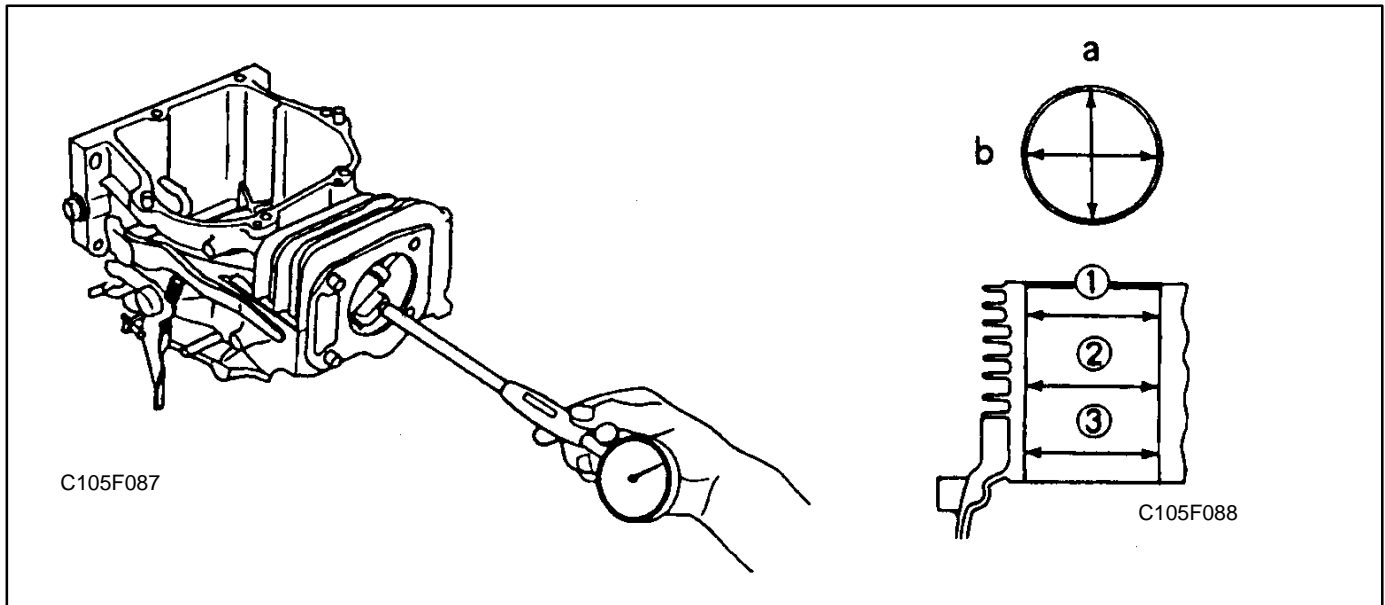

FIGURE 9-13. MEASURING CYLINDER WEAR
1. Measure the I.D. of the cylinder liner with a cylinder gauge at six points as shown in Figure 9-13.